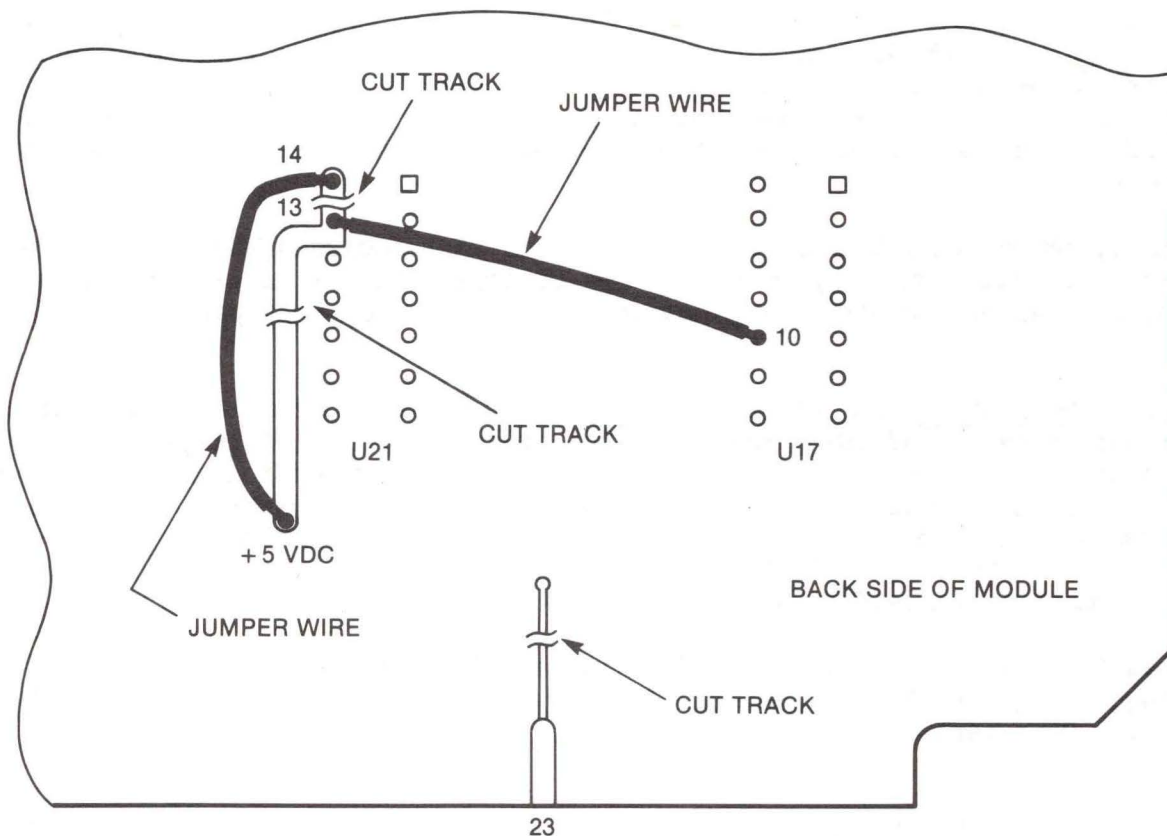

FIGURE E-6. USE Modification for 16K Dynamic RAM Module (MEX6816-1)
E.2.2.4 16K Dynamic RAM Modules (MEX6816-1). The early 16K Dynamic RAM Module (MEX6816-1) requires modification before use in an M6809 EXORciser. These modules generate an Activate (ACT) signal on pin 23. This signal has been redefined in the M6809 EXORciser as Bus Status (BS). It is necessary to disable one of these signals in order to avoid damage to either module. The recommended modification is to disable the ACT signal on the 16K Dynamic RAM Module because it is used on only the MEX68RR EROM/RAM Module. To disable the ACT signal, cut the ACT signal track (pin 23) above the finger on the module edge connector (Figure E-6).
- a. Remove +5 Vdc connection from U21 pin 13 by cutting the tracks between pins 13 and 14 and between +5 Vdc and pin 13, as illustrated in Figure E-6.